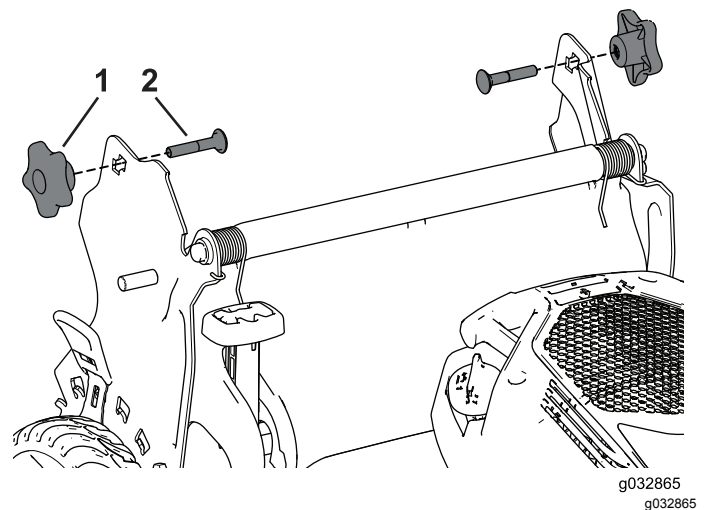

Figure 30
4. Insert the carriage bolt (with the bolt head toward the inside) through the handle bracket and the upper hole in the handle end. Ensure that the square edges of each carriage bolt fits into the upper or lower square hole in its related handle bracket (Figure 30).